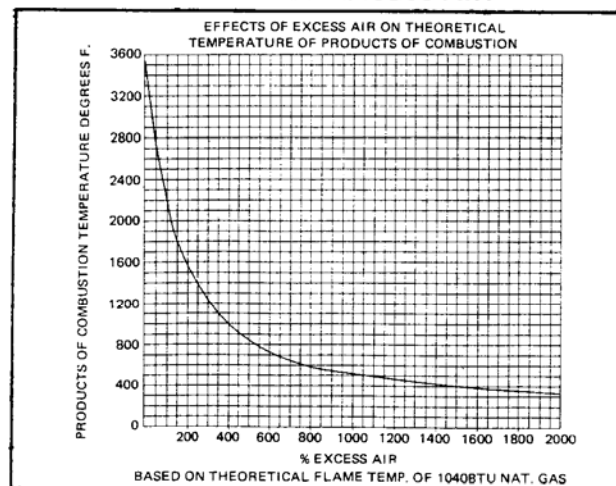

Fig. 3 - Chart No. GY834
1. Determine the % of excess air, using Figure 3, required for the desired temperature of the products of combustion.
5. Determine the minimum temperature of the products of combustion from Figure 3. If either the minimum capacity or minimum temperature is less than required, the burner selection is correct. If not, repeat the process with a larger or smaller burner as required.